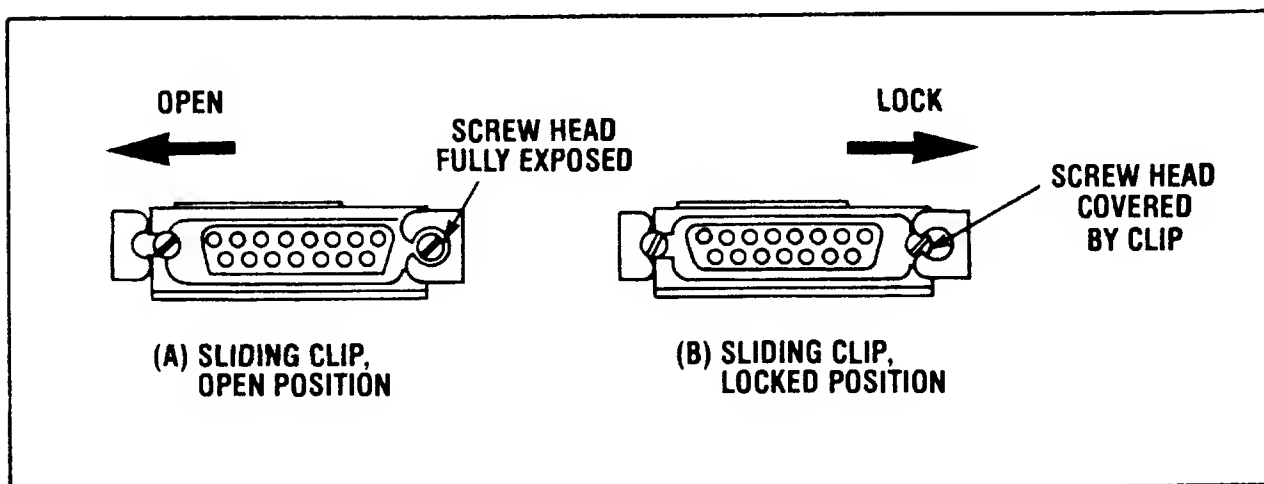

Figure 2-7. Securing Cable Hold-Down Clips
Following the instructions below, connect the male end of the IEEE 802.3 AUI cable, Ethernet branch cable, or ThinMAU cable (whichever is installed) to the 15-pin female D connector on the LANIC card. Be certain that the connector hold-down hardware is secure. The hold-down hardware is a sliding clip mechanism that captures the slotted studs on the opposing connector. This is illustrated in Figure 2-7.
- Slide the hold-down clip to the "open" position (see Figure 2-7(A)).
- Slide the hold-down clip to the "locked" position (see Figure 2-7(B)). This hold-down clip prevents accidental cable disconnection during operation.